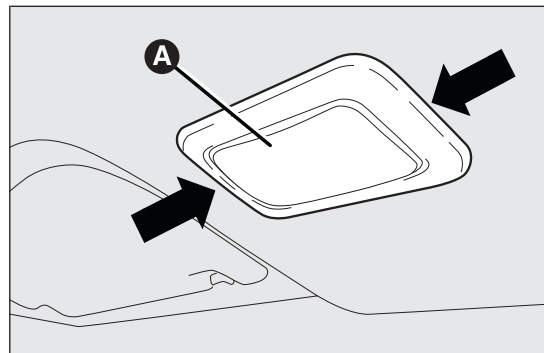

fig. 148
- extract the ceiling light A fig. 148 by operating in the points shown by the arrows;